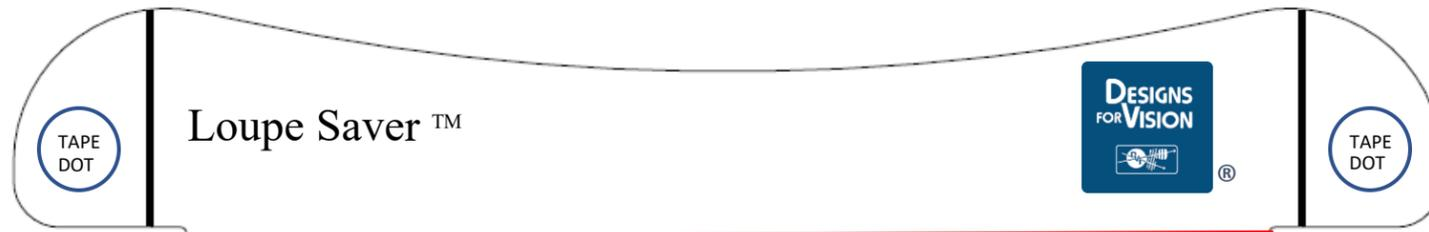
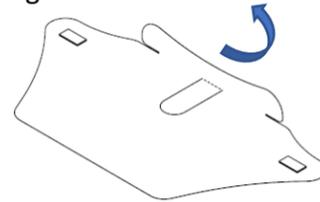

Figure 4
Figure 5
- The first bend is along the red line on the top, see Figure 4, The next two bends are indicated by the two black lines on each side of the top shown in Figures 5 and 6